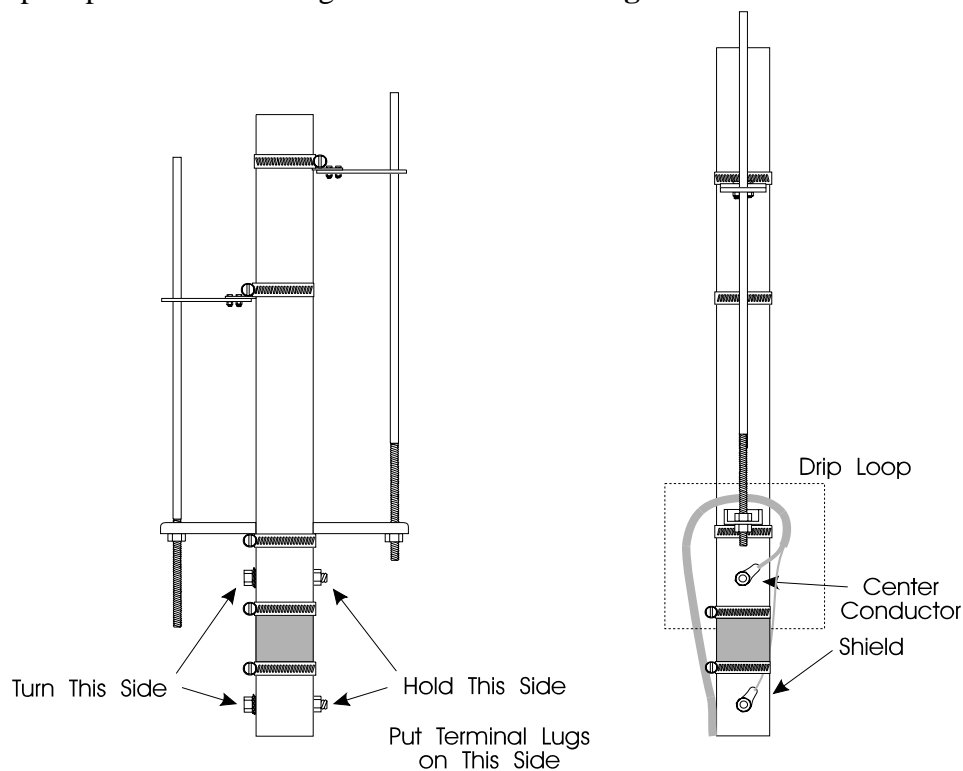

Figure 8
- [] 23. Remove the nuts on the center insulator bolts of the main element and install the **center conductor** lug of the coax **under the upper** element nut and the **shield** lug **under the bottom** element nut. Hold the nut in place and turn the bolt head to tighten these bolts so that the lug does not break off the end of the coax. Be sure to dress the coax so it loops up in a drip loop so water cannot get into the end. See Figure 8.